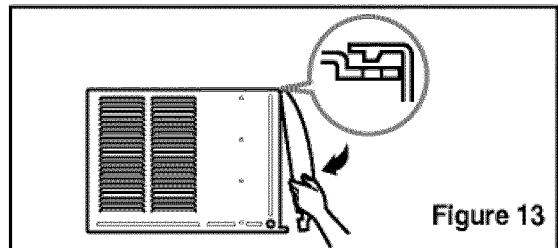

Figure 13
2. Attach the front grille to the cabinet by inserting the tabs on the grille into the tabs on the front of the cabinet. Push the grille in until it snaps into place. (See Figure13)